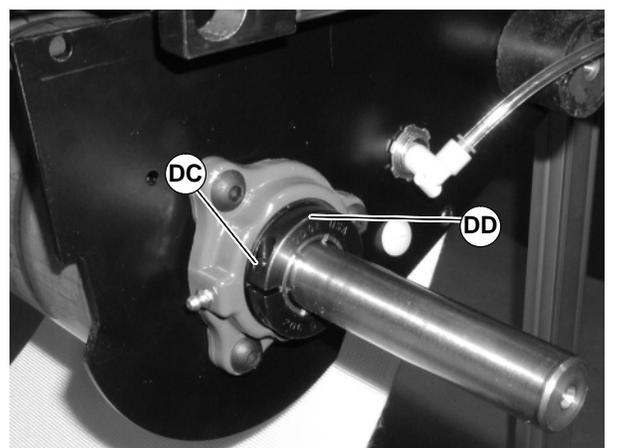

Figure 96
6. Loosen clamp screw (DC of Figure 96) and remove bearing collar (DD).